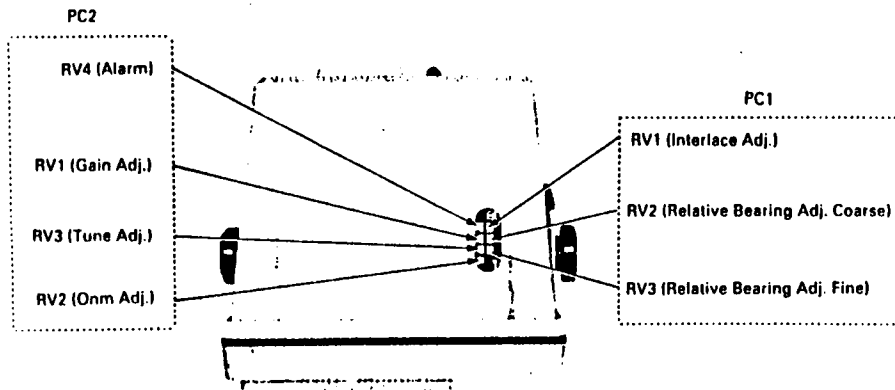

FIG. 5-2 MAIN BOARD PCB ADJUSTMENT
- 6) Main Board PCB Adjustment (See Fig. 5-2)